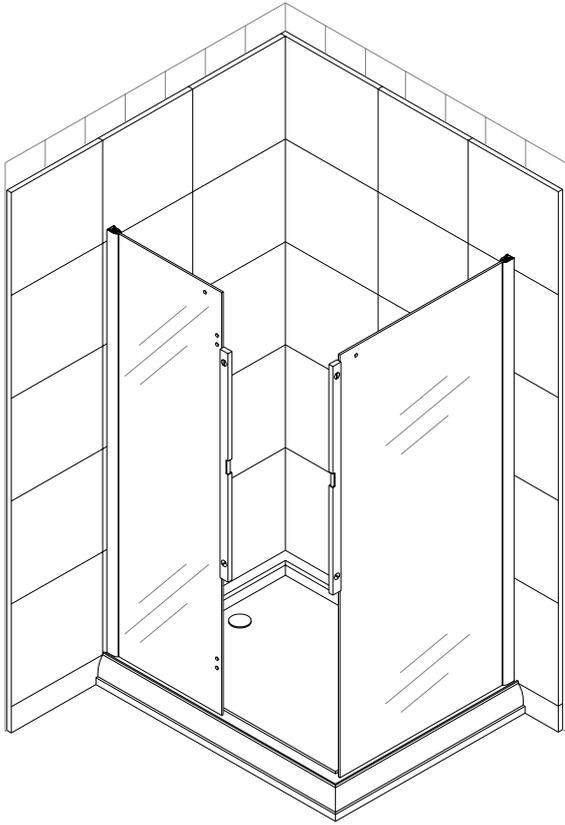

Fig 3
4. Repeat step 1-3 to install another side wall profile and **Wide Stationary Glass Panel (4)**. You need to install profile A 36" OR 45" from the corner depending on size of your shower. Check, if stationary glass installed vertical in both directions (fig 3)